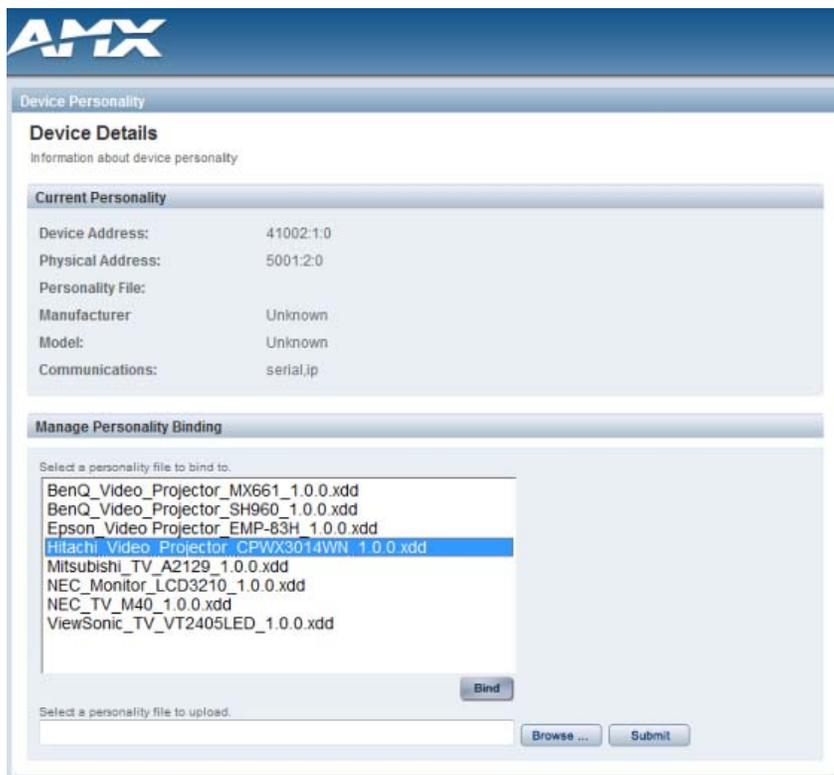

FIG. 107 WebConsole - Device Details page (no file bound)
5. Click on the Driver Design entry that is to be dynamically bound. This opens the *Device Personality* page of the Master's WebConsole (FIG. 107):